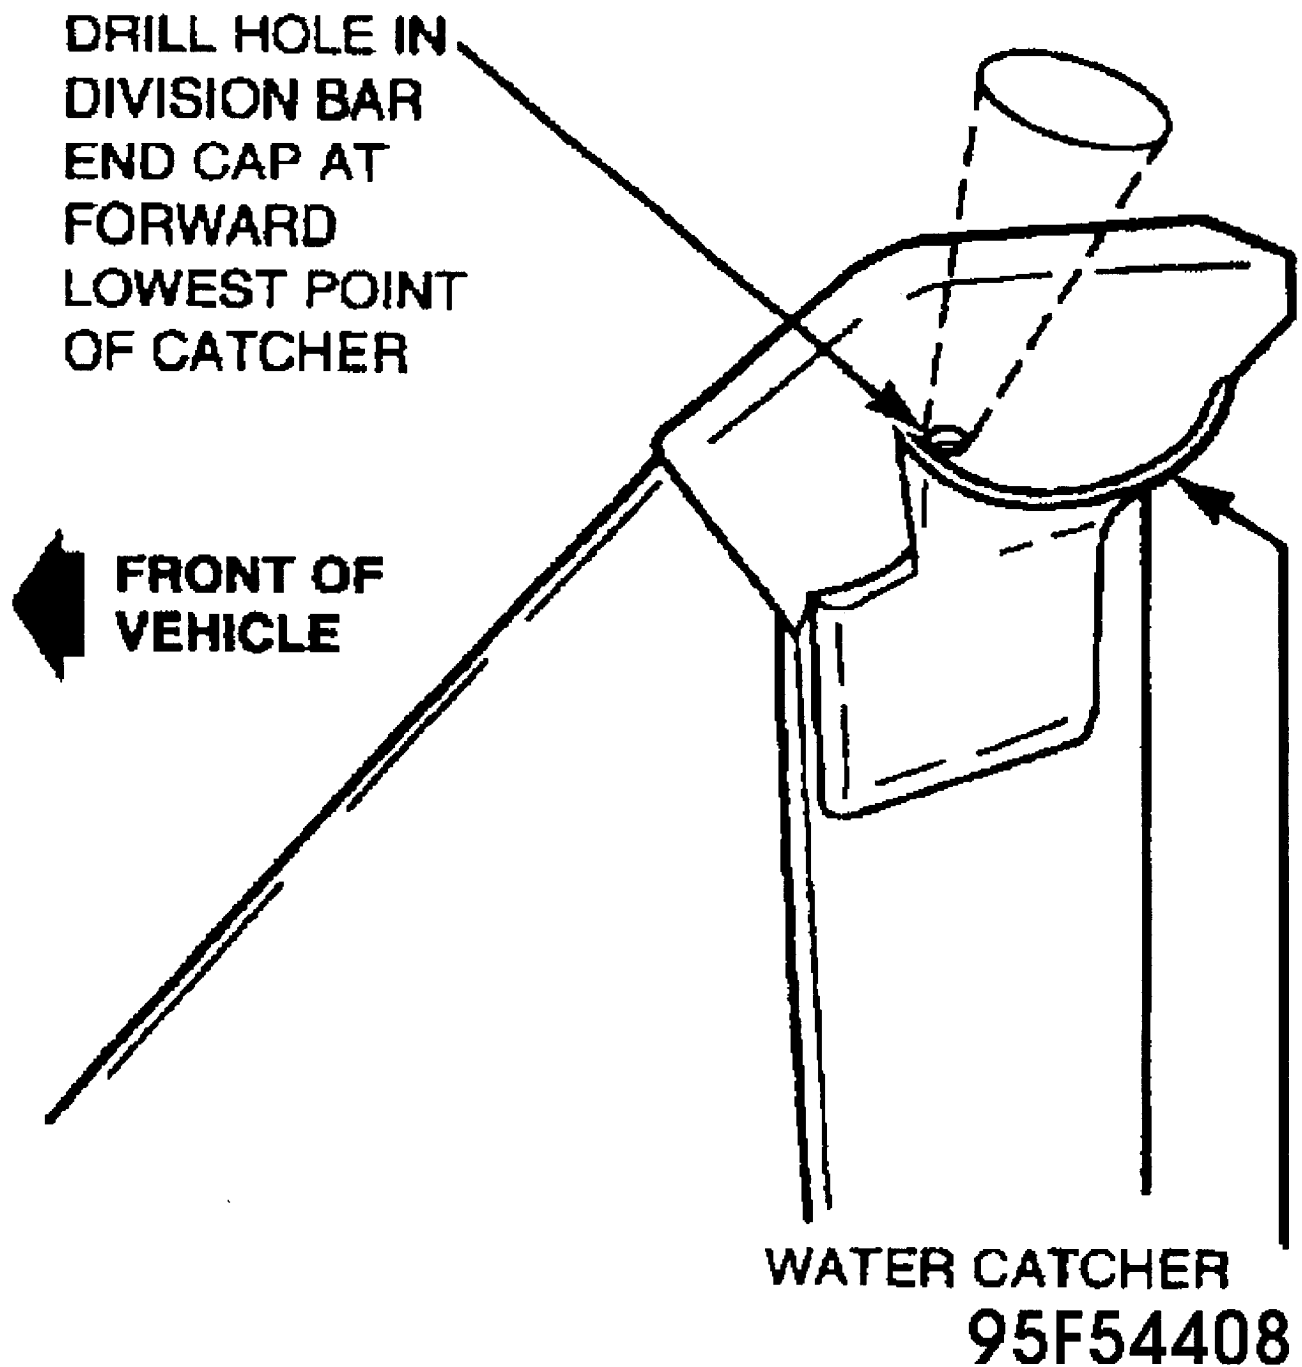

Fig. 3: Hole Location In Division Bar End Cap
3. Open the door and, using the tape mark, align the catcher with the division bar. Make sure the water catcher is aligned both vertically and parallel to the division bar. Mark the location of the hole at the forward edge of the water catcher using an awl or similar tool. Drill a 3/16" hole into the division bar end cap. Refer to Fig. 3.